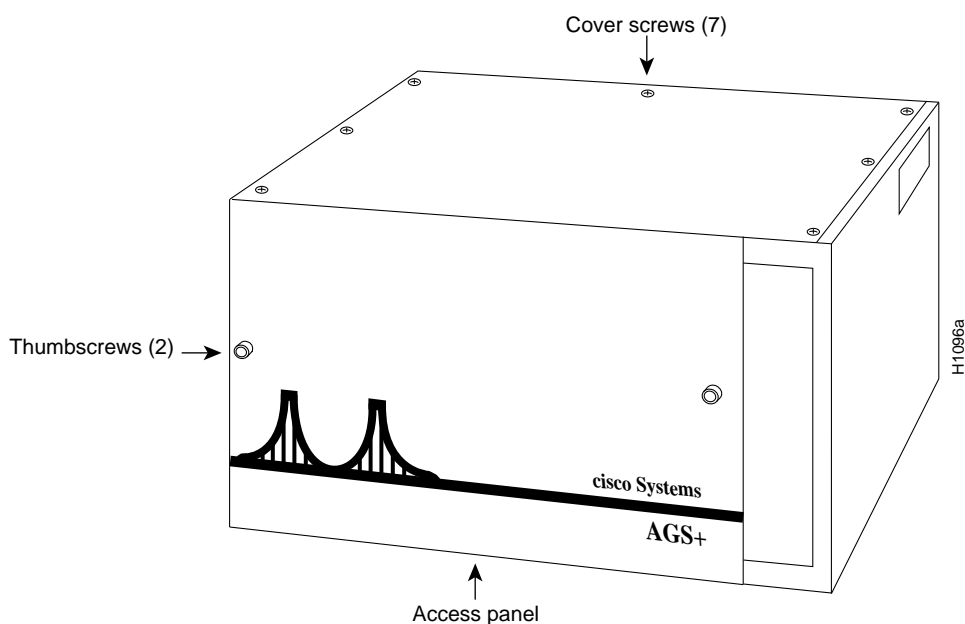

Figure 4 Front and Top Panels on the A-Type Chassis —AGS+ Chassis Shown
- Step 2** Remove the front access panel and set it aside. (See Figure 4.)